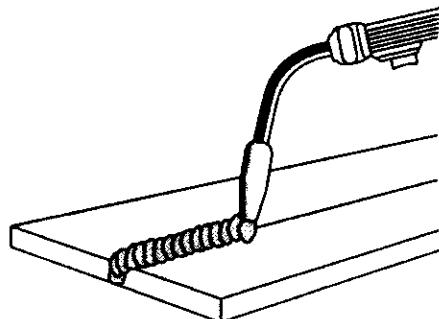

**Figure 11.** Weave Weld Bead
2. The WEAVE BEAD (Figure 11) is used when you want to deposit metal over a wider space than would be possible with a stringer bead. It is made by weaving from side to side while moving with the gun. It is best to hesitate momentarily at each side before weaving back the other way.